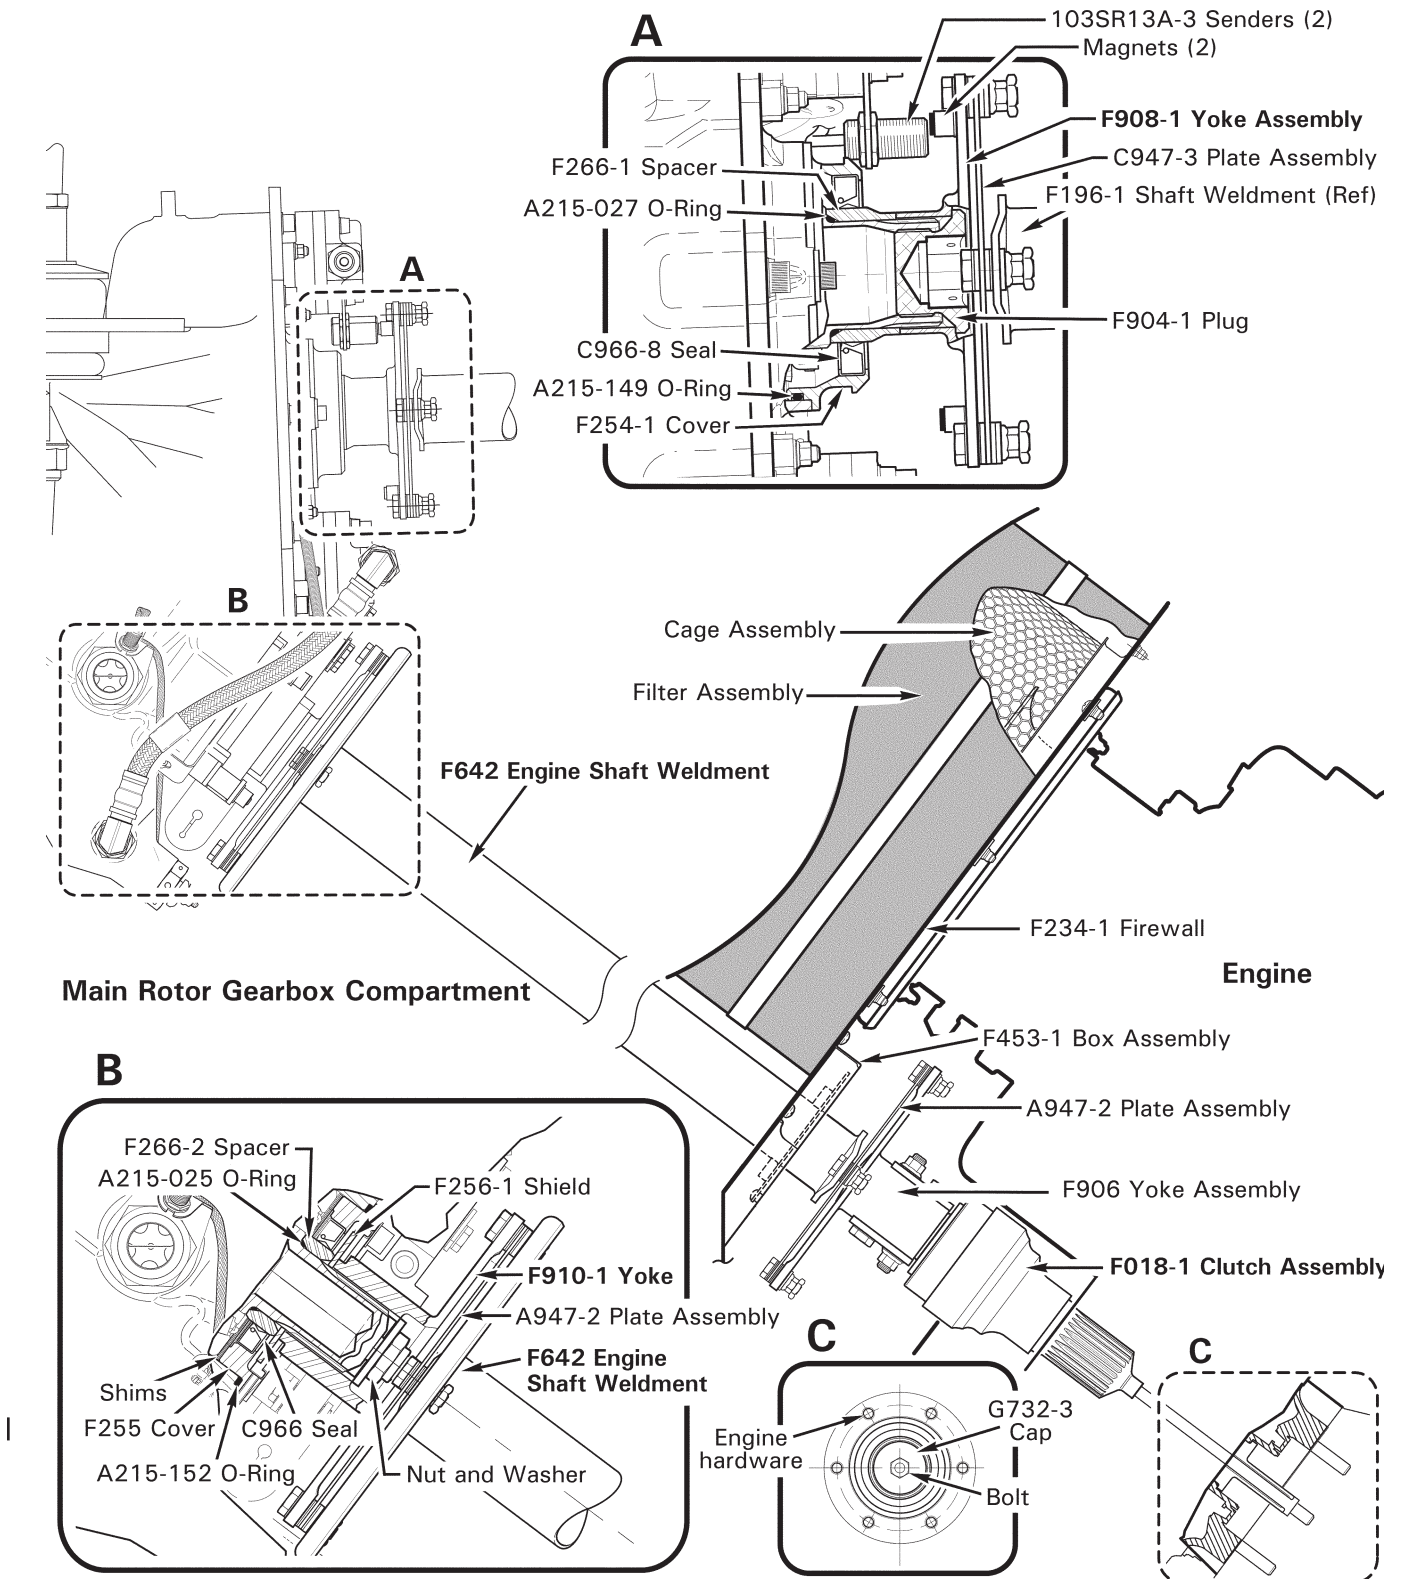

FIGURE 63-1 ENGINE DRIVELINE
3. Refer to Figure 63-1. Remove hardware securing F453-1 box assembly to F234-1 firewall.
1. Refer to Figure 63-1. Position F642 engine shaft weldment in helicopter, and install hardware securing shaft weldment to aft A947-2 plate assembly. Standard torque nuts and palnuts per § 20-32, and torque stripe per Figure 5-1.
2. Refer to Figure 63-1. If not previously accomplished, remove hardware securing forward A947-2 flex plate assembly to F910-1 (main gearbox) yoke and F642 (engine) shaft weldment forward flange. Remove flex plate, and temporarily support forward portion of shaft weldment.
2. Refer to Figure 63-1. Mark F906 yoke assembly and A947-2 plate assembly, to facilitate installation. Remove plate assembly, noting hardware removed.
1. Refer to Figure 63-1. Lubricate F018-1 clutch assembly splines using A257-1, -9, or -12.
4. Refer to Figure 63-1. Remove hardware securing F908-1 and F910-1 yoke assemblies to plate assemblies, leaving plates attached to shaft weldments. Note hardware removed.
3. Refer to Figure 63-1. Remove forward C947-3 flex plate assembly, noting hardware removed. Remove intermediate C947-3 flex plate assembly, noting hardware removed. Carefully maneuver fan shaft aft to access main gearbox's F908-1 yoke.
1. Refer to Figure 63-1. Remove F266-1 spacer and replace A215-027 o-ring, as required. Reinstall spacer.
3. Refer to Figure 63-1. Remove hardware securing A947-2 (forward) plate assembly to F910-1 yoke assembly, and A947-2 (aft) plate assembly to F642 shaft weldment, noting hardware removed. Support weldment to allow clearance for yoke removal.
1. Refer to Figure 63-1. Replace A215-025 o-ring, as required.
4. Remove hardware and spacers securing brake assembly mounting bars to gearbox cartridge. Remove G033-1 brake assembly F256-1 shield (see Figure 63-1).